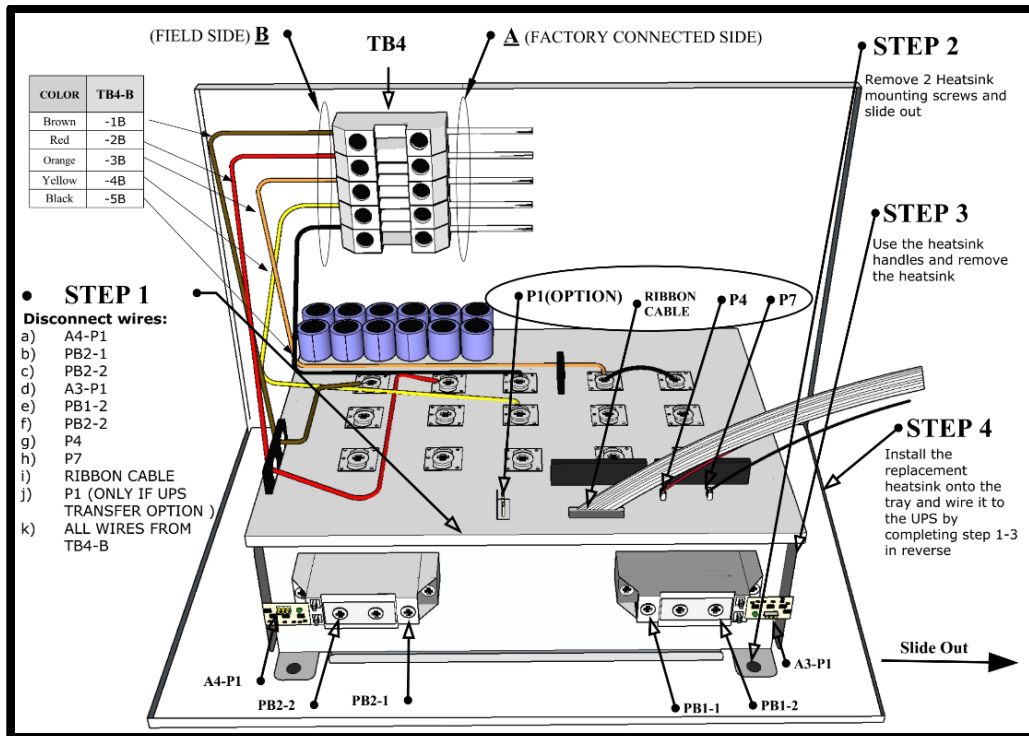
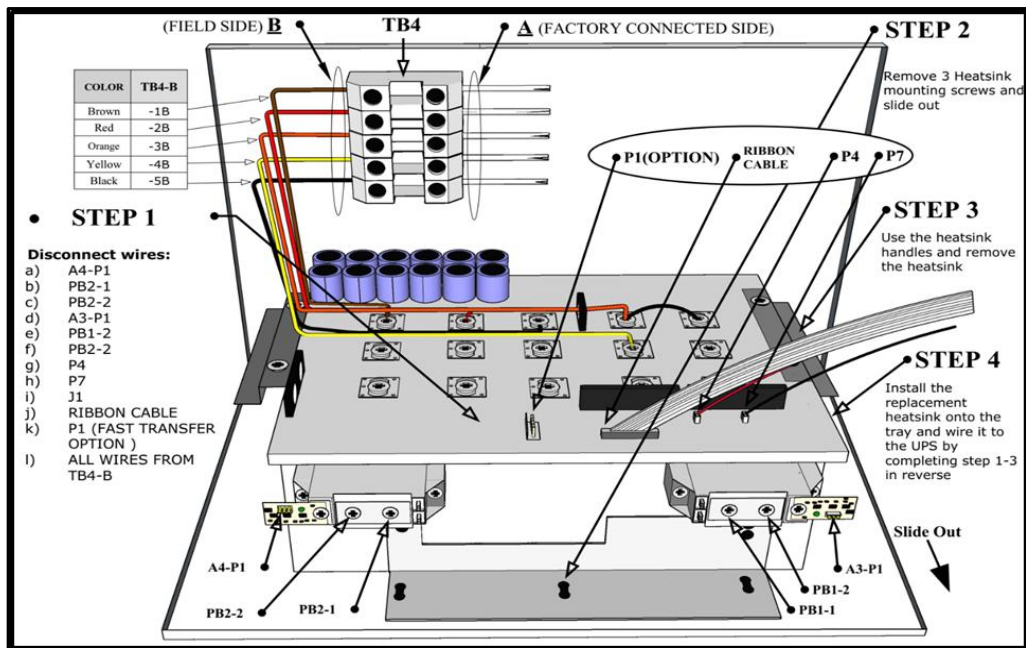

Figure 6-1. Heatsink Assembly (units up to 5kw)
Figure 6-2. Heatsink Assembly (all others)
4. Install the replacement heatsink onto the tray and wire it to the unit by completing step 1-3 in reverse (see Figure 6-1 and Figure 6-2)